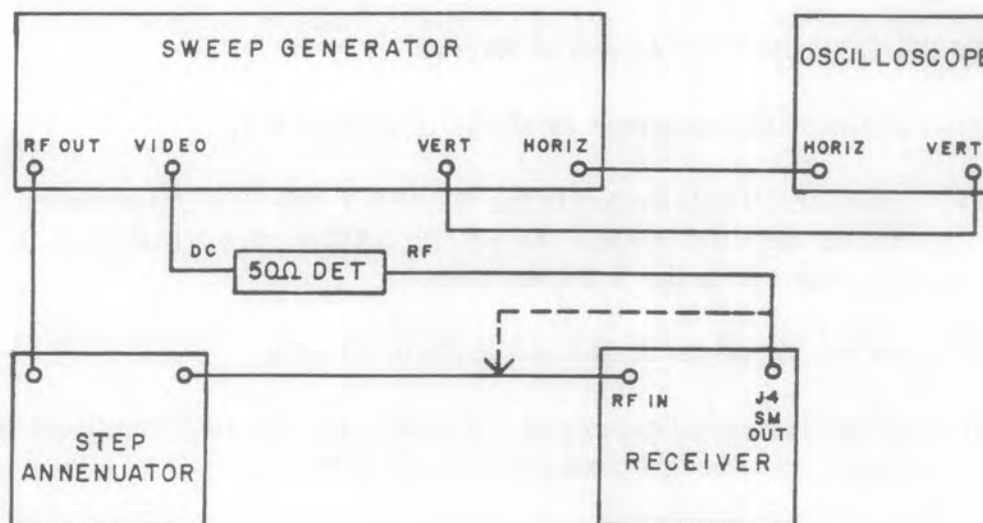

Figure 4-5. Test Setup, Tuner Gain
- (1) Connect the equipment as shown by the solid lines in Figure 4-5.
- (2) Place the receiver in the AM MAN mode and in its narrowest i-f
- (7) While tuning the tuning head and sweep generator center frequency slowly across the entire 26-90 MHz frequency range, observe the response amplitude and find the frequency at which this amplitude is minimum. When this frequency is determined, adjust the oscilloscope vertical sensitivity to place the response peak at a convenient reference point on the graticule.
- (8) Connect the step attenuator output to the detector input as shown by the dotted line in Figure 4-5. Decrease the attenuation of the step attenuator until the response peak on the oscilloscope reaches the level noted in step (7).
- (9) The difference between the attenuator settings in steps (5) and (8) is the minimum overall gain on the unit. Repeat steps (1) through (8), this time using the frequency of maximum gain as the basis for the computation. In either case, the gain of the tuning head should be between 21 and 27 dB.
- (10) The gains of the three remaining tuning heads can be measured using a procedure similar to that presented in steps (1) through (9) above. Place the BAND switch in the appropriate position for each tuning head. Listed below are the acceptable gains of each tuning head: